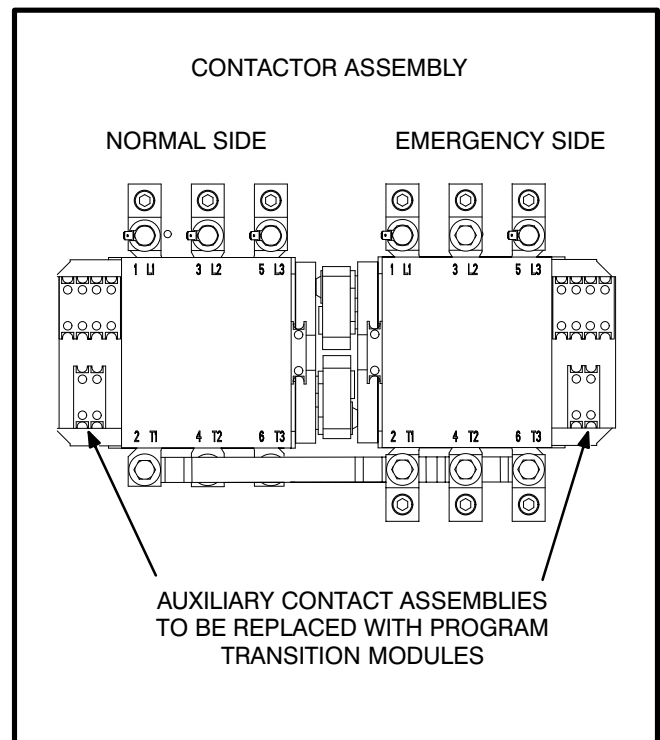

FIGURE 1. AUXILIARY CONTACTS
2. Open the cabinet door. The program transition modules will be mounted in place of the auxiliary contacts shown in Figure 1. The auxiliary contacts have two sets of normally closed con-
3. Remove the wiring connections from the auxiliary contact assemblies being replaced (see Figure 1). Make sure leads are clearly marked before removal.